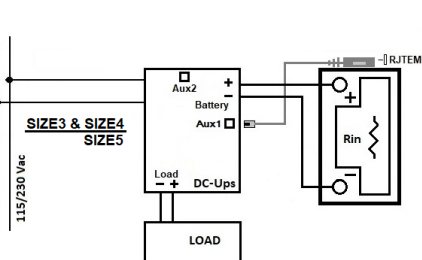

Fig.6
- Battery Sense connection for the device Size3 and device Size4 (Fig.6)